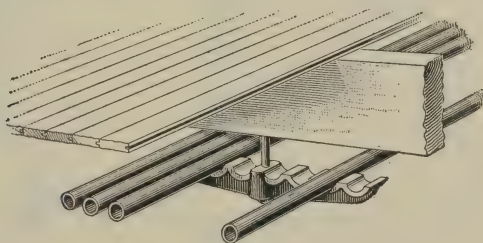

FIG. 56
**77. Pipe saddles** are made of cast iron; they have notches for the pipes, as shown in Fig. 56. The smaller sizes